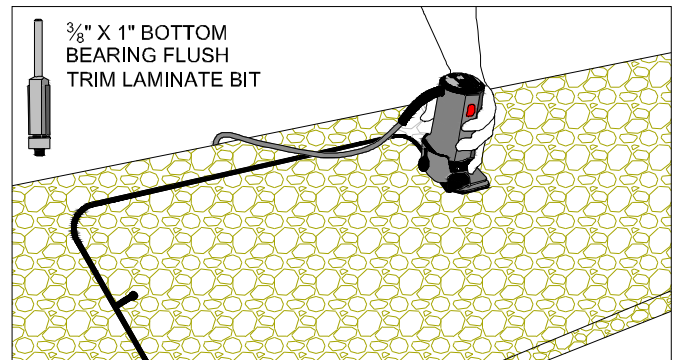

Figure 22A
- Use a laminate tilt-base trim router with a $\frac{3}{8}$ " bottom bearing double-fluted flush trim bit, remove the laminate over the sink. (FIG. 22A)